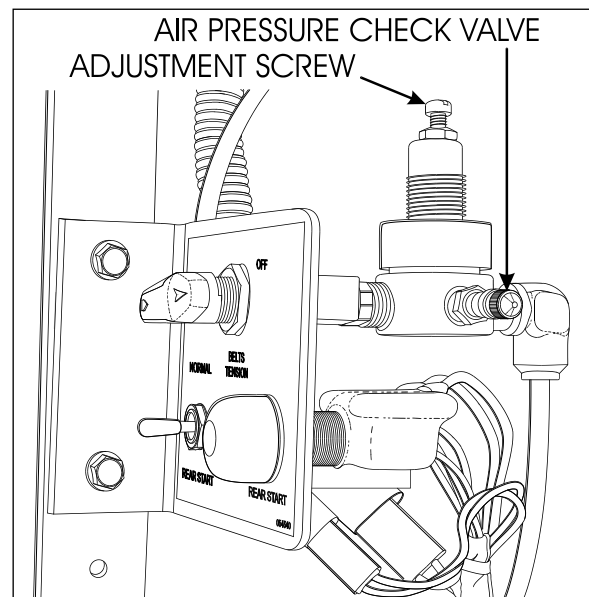

FIGURE 19: TENSIONING VALVE
1. Open engine compartment rear doors and locate the belt tensioner two-way control valve (Figure 19), mounted above the engine R.H. side door next to the pressure regulating valve, then turn handle
3. Reset belt tensioning pressure control valve (Figure 19). Pressure is factory set to 45 psi (310 kPa), periodically check proper pressure.